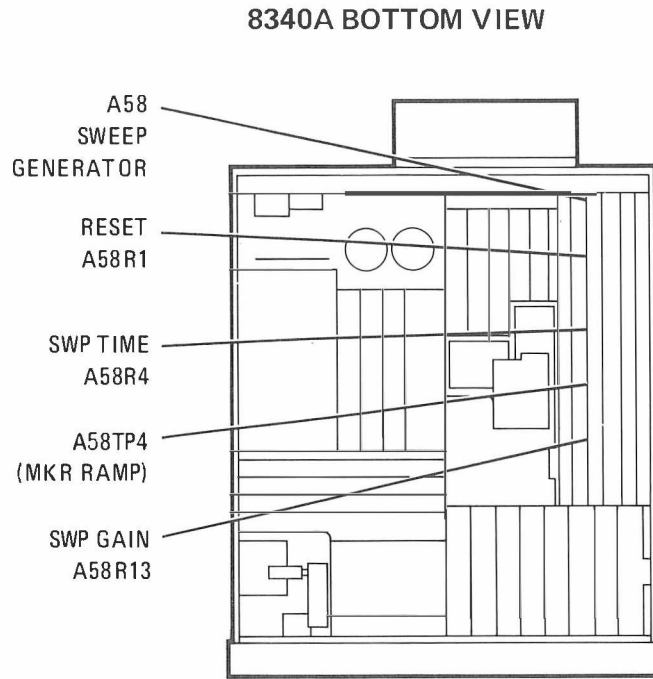
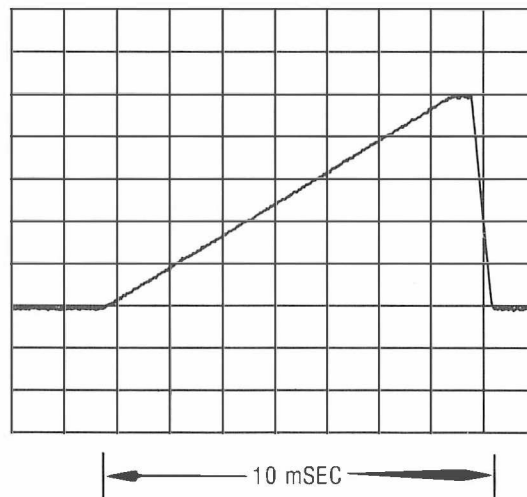
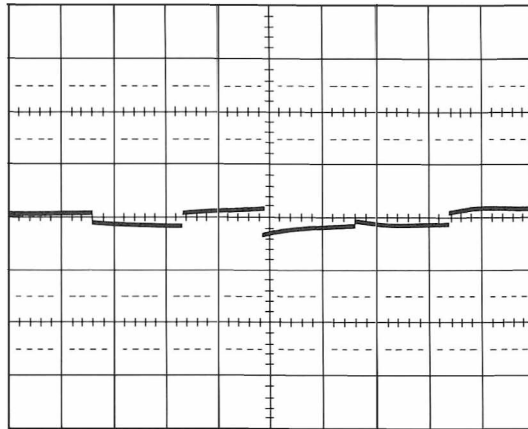

Figure 5-32. Sweep Generator Adjustments Location
Figure 5-33. Sweep Ramp at A58TP4
Figure 5-34. Reset Pulse Adjusted to Zero Volt Average
5. Adjust A58R4 SWP TIME control (Figure 5-32) for a 10 mSec ramp on oscilloscope (Figure 5-33).
8. Adjust A58R1 RESET control (Figure 5-32) for as close as possible to zero Volt average on the oscilloscope. (See Figure 5-34.)